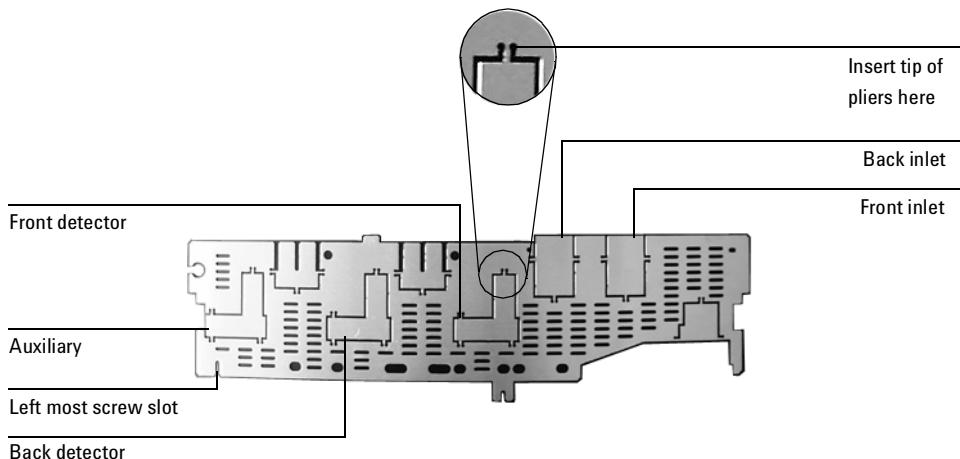

Figure 330-17 Top rear panel cutouts
10. Using a pair of needle-nosed pliers, remove the appropriate top rear panel detector cutout for the TCD. Also remove any cutouts needed to access other manifolds or accessories installed in the GC. See Figure 330-17.